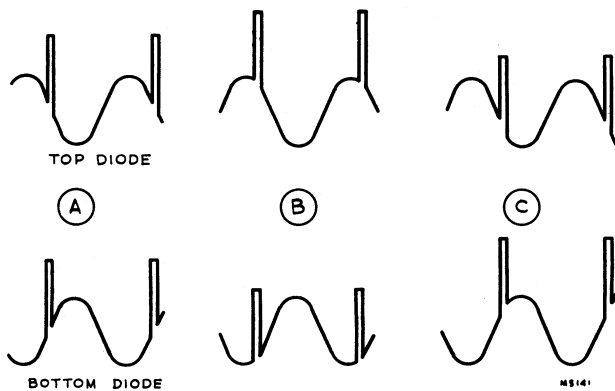

Figure 8—Sync Discriminator Waveforms
Coils L1 to L9 and L2 to L10 are unusual in that they are wound in figure 8 fashion on fingers protruding from the switch wafer. This winding form produces a relatively non-critical coil since the coupling between turns is minimized. A maximum amount of wire is used for the small inductance which is required, thus permitting greater accuracy in manufacturing.
R-F Oscillator—The oscillator line is similar except that trimmer adjustments are provided for each channel and the low frequency coils are not figure 8 windings. For tuning each channel, brass screws are used in close proximity to the high frequency tuning straps L66 to L76, and brass cores are adjusted through coils L54 to L62. It is obvious that the high frequency adjustments should be made before each lower frequency one.
The sine wave oscillator voltages applied to the plates of V123 are equal in amplitude and opposite in phase. The synchronizing pulses from the second sync amplifier are fed through a differentiating network to attenuate the vertical sync and then applied to the center tap of T108. The horizontal sync pulses thus appear in phase and of equal amplitude on the diode plates as shown in Figure 8. When the pulse and sine wave are properly phased as in (A), both diodes will produce equal voltage across their load resistances, R191 and R192. However, these voltages are of opposing polarity and therefore the sum of the voltages across these two load resistors will be zero. If the phase of the pulse changes with respect to the sine wave as in (B), the top diode will produce more voltage across R191 than the bottom diode produces across R192. Thus, the voltage across the two will be positive. In (C) the reverse condition exists. It is obvious that the output of the discriminator can swing from positive through zero to negative dependent upon the phase relation of the synchronizing signal and the oscillator. This d-c output is applied to the grid of V124.